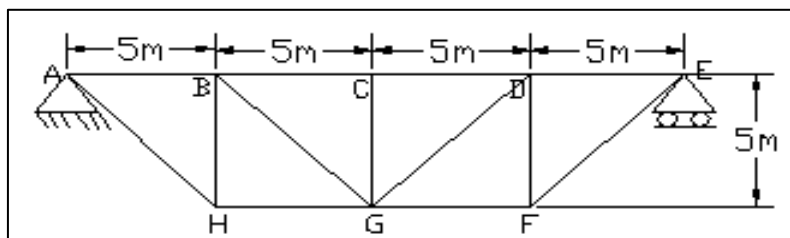

Fig. 5
5. Construct the influence line diagram for the forces in member AB, AH and BH of the truss as shown in Fig. 5.